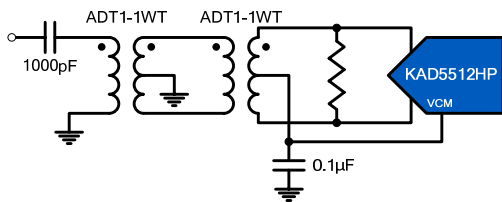

Figure 28. Transformer Input for General Purpose Applications
Best performance is obtained when the analog inputs are driven differentially. The common-mode output voltage, VCM, should be used to properly bias the inputs as shown in Figures 28 through 30. An RF transformer will give the best noise and distortion performance for wideband and/or high intermediate frequency (IF) inputs. Two different transformer input schemes are shown in Figures 28 and 29.